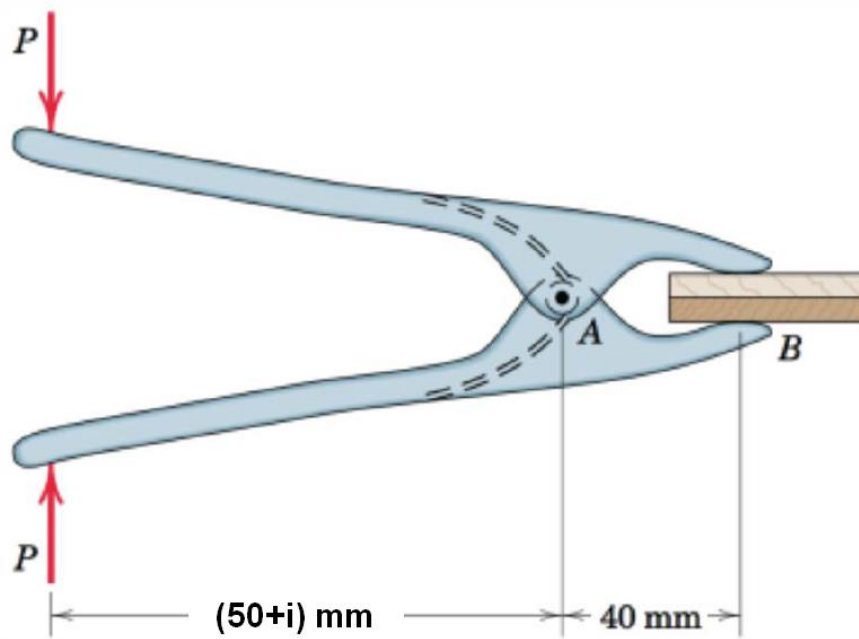

Fig. 4
4. In the spring clamp shown in Fig. 4, an internal spring is coiled around the pin A and the spring ends bear against the inner surfaces of the handle halves in order to provide the desired clamping force. In the position shown, a force of magnitude $P = 50 \text{ N}$ is required to release the clamp. Determine the compressive force at B if $P = 0$.